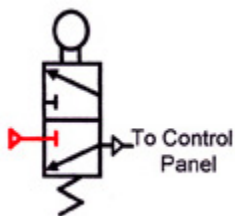

Figure 8-30. NC limit valve.
The most common limit valve is a miniature 3-way like the one shown in Figure 8-30. This particular example is (NC). Contact with a machine member opens it. Except for bleeder type control circuits, a limit valve requires at least a 3-way function. Once this normally closed valve shifts, it passes a signal on to continue the cycle. In normal condition, fluid in the control circuit exhausts through the exhaust port.